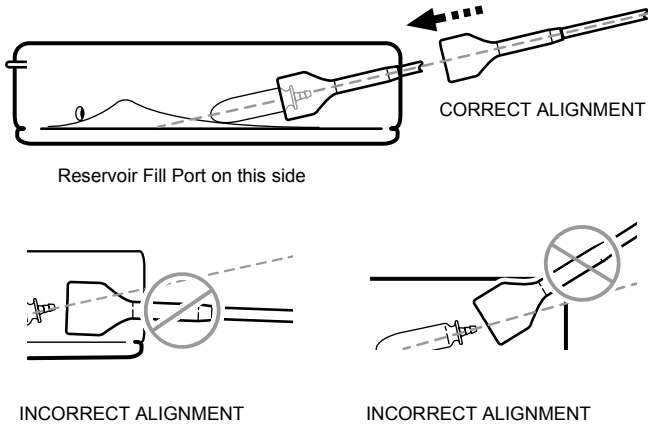
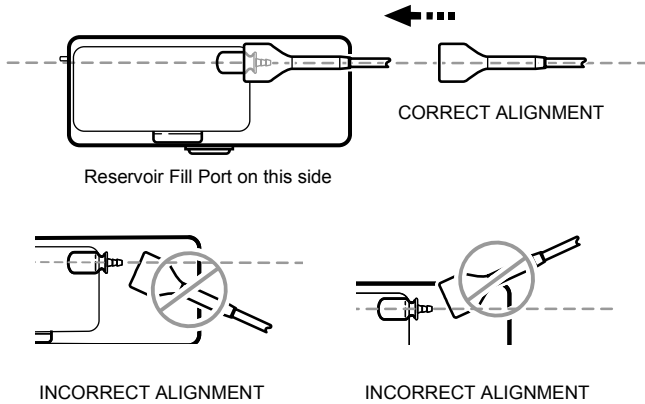
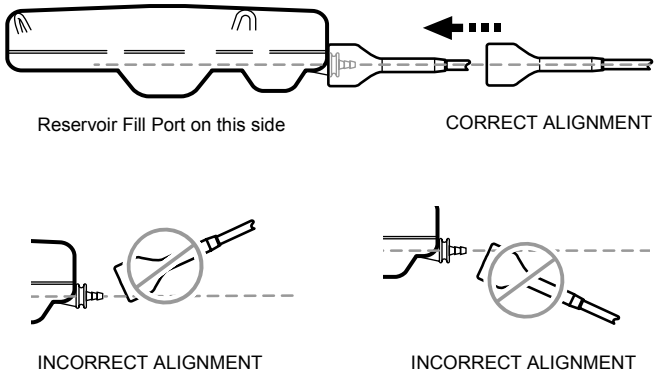

Figure 14. Attaching the sutureless pump connector to the SynchroMed II pump (Lateral View).
Figure 16. Attaching the sutureless pump connector to the SynchroMed EL pump (Lateral View).
Figure 18. Attaching the sutureless pump connector to the IsoMed pump (Lateral View).
2. At the pump pocket site, position the catheter port of the pump in line with the opening of the sutureless pump connector (see Figures 14 and 15 for SynchroMed II pump, Figures 16 and 17 for SynchroMed EL pump, and Figures 18 and 19 for IsoMed pump).
3. Attach the sutureless pump connector using one of the following methods (see Figures 14 and 15 for SynchroMed II pump, Figures 16 and 17 for SynchroMed EL pump, and Figures 18 and 19 for IsoMed pump):
- a. Place a thumb and forefinger precisely on the oval marks located on the two flat portions of the connector (Figure 14 on page 14).